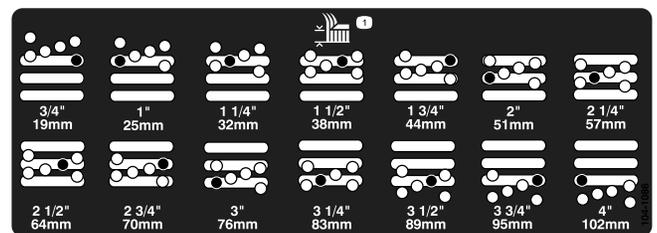

Figure 13
4. While supporting the chamber, remove the spacer (Figure 13).
5. Move the chamber to the desired height of cut and install a spacer into the designated height of cut hole and slot (Figure 13).